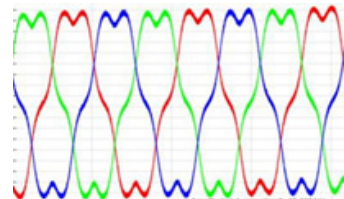

Figure 31: Harmonics 180 Degrees Out of Phase from Fundamental
- If the BEMF voltage has saddles in the shape of Figure 31, set BEMF\_COMP\_PHASE to 180°.